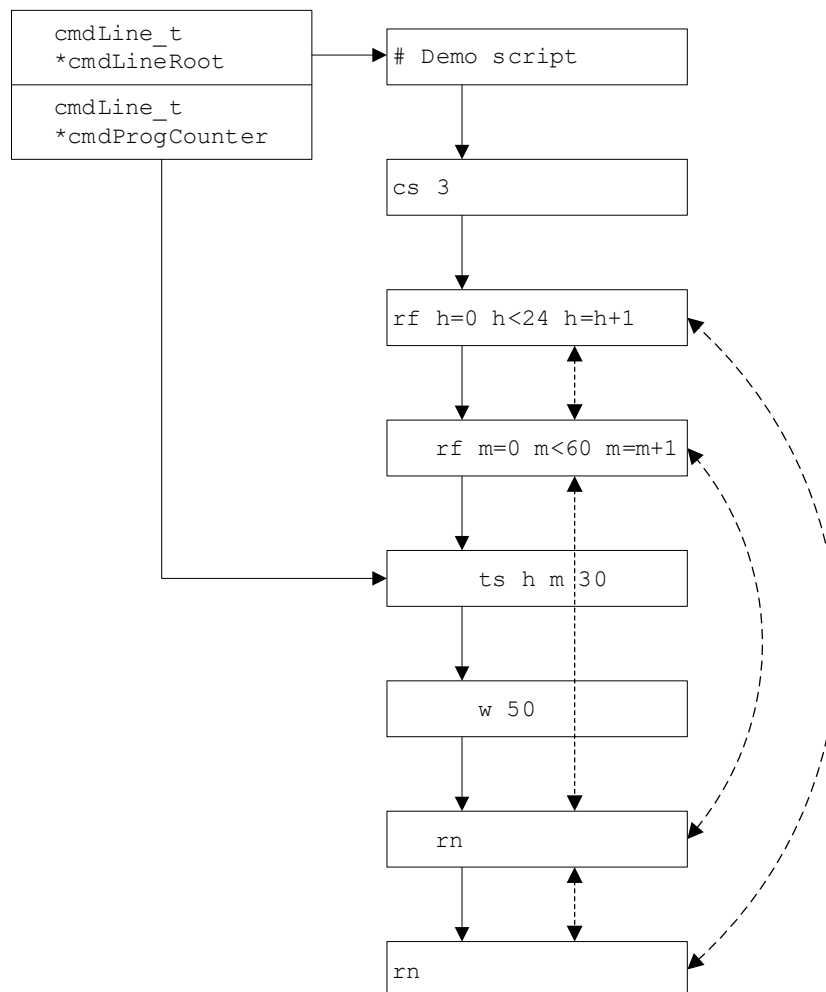

Figure 9: Creating and executing an mchron command list
Using the demo script of the first method as an example, upon entering the 'e' (execute) command the following will take place as depicted in figure 9 below.
- In `doExecFile()`, via function `cmdStackPush()`, function `cmdListFileLoad()` is called to load the file contents into linked list structures as depicted in figure 9 above. Part of loading the file is matching each line with its associated command dictionary entry. Also, the integrity of